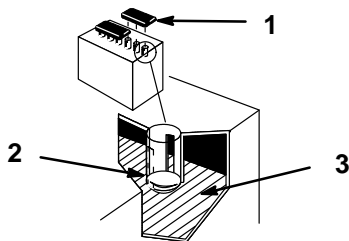

Figure 38
2. Open covers to see into the cells. The electrolyte must be up to the lower part of the tube (Fig. 38). Do not allow the electrolyte to get below the plates. (Fig. 38).
2. Lift off the filler caps (Fig. 38).
3. Slowly pour distilled water into each battery cell until the level is up to the lower part of the tube (Fig. 38).